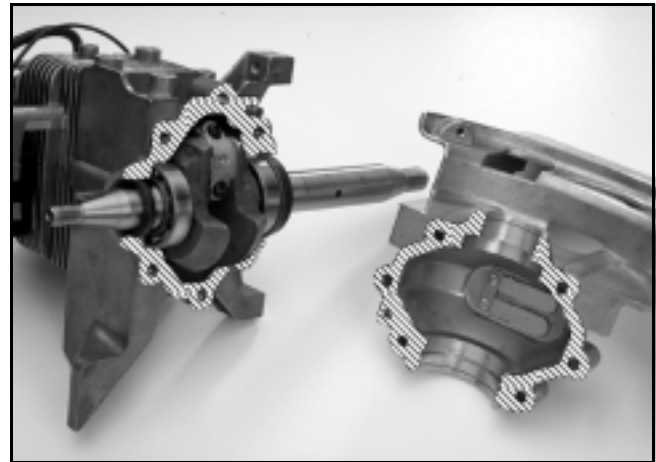

Figure 74
- Clean crankcase surfaces with Gel Seal and Gasket Remover. (See Figure 74.)